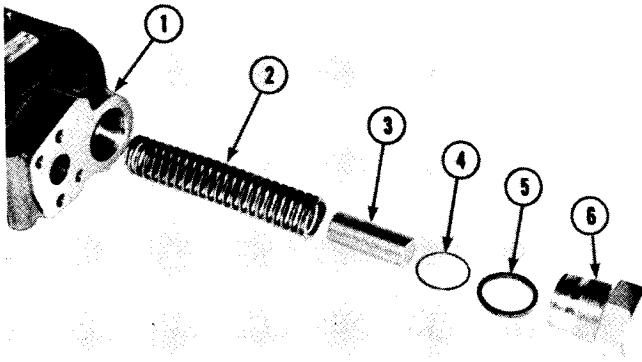

Figure 11-60
Remove the plug (6, Fig. 11-60) and slide the spring (2) and spacer (3) from the valve (1). Remove the "O"-ring (4) and seal ring (5) from the plug.